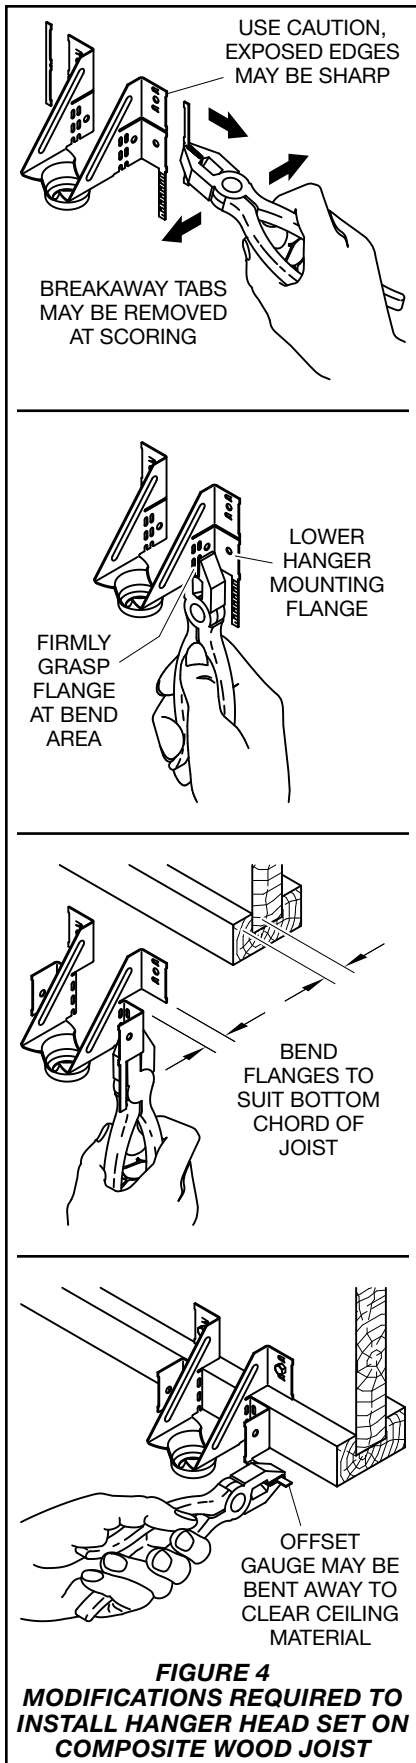

FIGURE 4
Step 1. Use a pliers to break off the breakaway tabs as shown in Figure 4.
Step 2. Use the pliers to bend the lower hanger mounting flange to a 90 degree angle as shown in Figure 4.